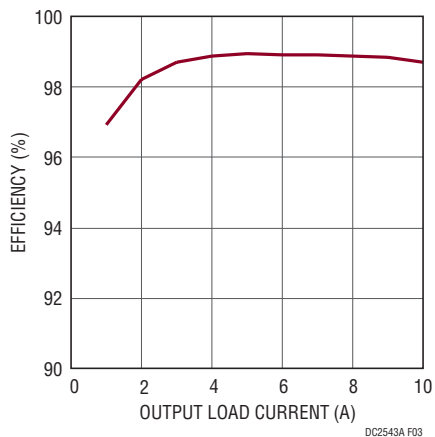
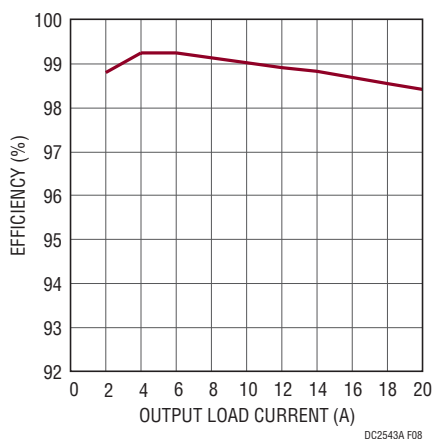

Figure 3. Efficiency vs Load Current at $V_{IN} = 48V$, $V_{OUT} = 24V$, $f_{SW} = 200kHz$
Figure 8. Efficiency vs Load Current at $V_{IN} = 48V$, $V_{OUT} = 24V$, $f_{SW} = 200kHz$ *
Demonstration circuit 2543A is a high efficiency, high density, open loop charge pump (inductorless) DC/DC converter. This demo board is a voltage divider which achieves a 2:1 step-down ratio from an input voltage from 36V to 60V. The output voltage is a fixed ratio of half of the input voltage ($V_{IN}/2$) and can supply a 10A load current. This demo board has the option to deliver a 20A maximum load with the addition of 15 chip capacitors. See Figures 8 and 10 for the details.
The DC2543A provides a very high efficiency solution of 98.7% when converting 48V_{IN} to 24V_{OUT} at 10A as shown in Figure 3. When configured for a 20A output, an efficiency of up to 98.4% is achievable for a 48V_{IN} to 24V_{OUT} at 20A as shown in Figure 8.
1. When measuring the output or input voltage ripple, do not use the long ground lead on the oscilloscope probe. See Figure 3 for the proper scope probe technique. Short, stiff leads need to be soldered to the (+) and (-) terminals of an output capacitor. The probe's ground ring needs to touch the (-) lead and the probe tip needs to touch the (+) lead.